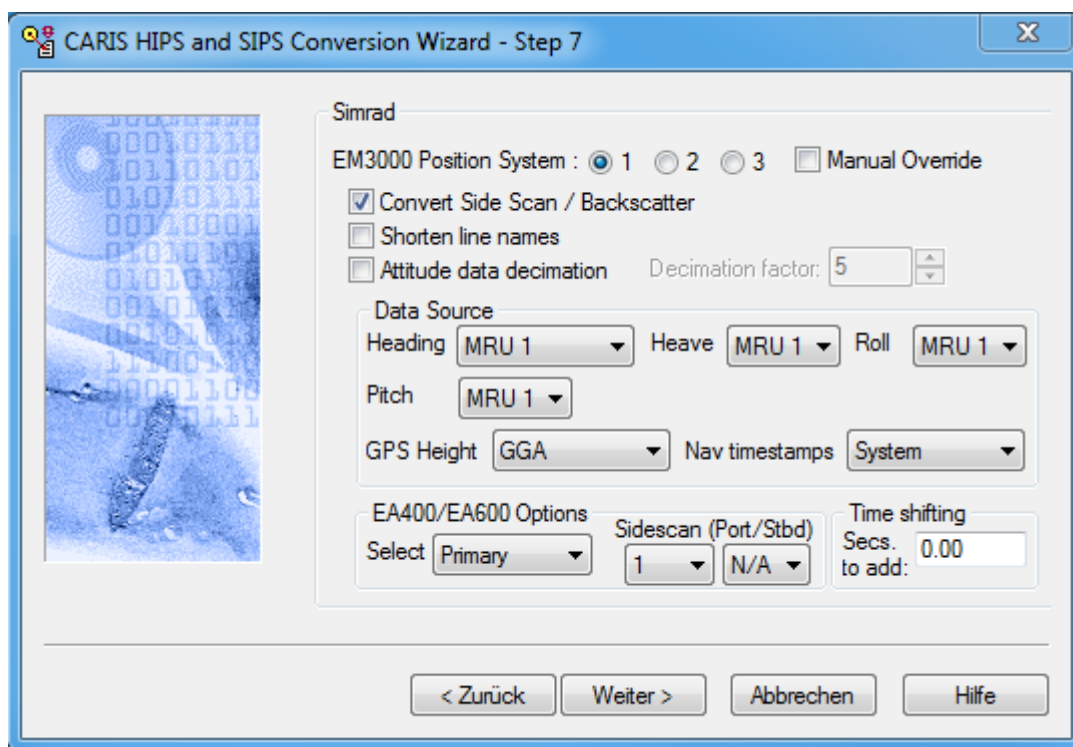

Figure 22: Step 7 of the Conversion Wizard
6. Start conversion by clicking **Next** (Figure 22)